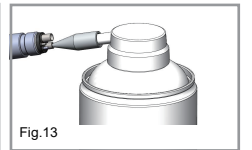

Fig.13
5. To lubricate 5H/M4 series handpiece, put Spindle Nozzle into nozzle of the lubrication oil can and inject the oil into drive air tube for 2~3 seconds (Fig.13).